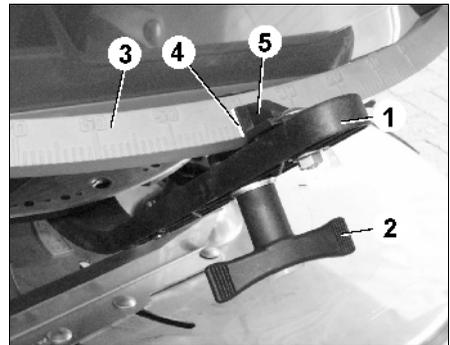

Fig. 30
- Slacken the thumb nut (Fig. 30/2).
- Find the required shutter slide position on scale (Fig. 30/3)
- Set the read off edge (Fig. 30/4) of the setting lever pointer (Fig. 30/5) on to the scale figure.
- Firmly retighten the thumb nut (Fig. 30/2).